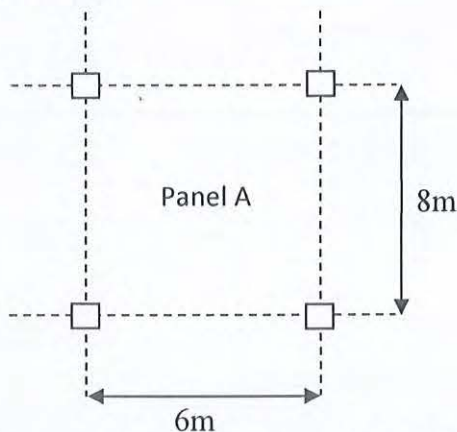

Figure 1. Panel of beam supported slab
- a. An interior panel of flat slab of an office building (live load 2.4 kN/m^2) is shown in **Figure 1**. The floor carries 2 kN/m^2 dead load due to random wall and floor finishes. **Minimum thickness** of slab should be based on deflection and punching requirements of code. The concrete strength (f_c') could be used as 24 N/mm^2 . Assume column size as $600 \text{ mm} \times 600 \text{ mm}$. Positive and negative moment coefficients of the panel are 0.35 and 0.65 respectively. Apply the concept to design the slab for **long span only**. [14 Marks]